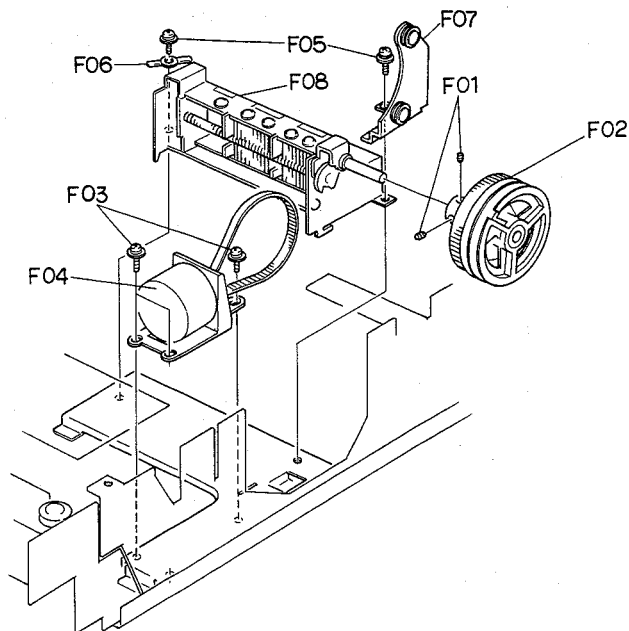

Fig. 3.15
Refer to Fig. 3.15. Remove Front Panel Ass'y referring to items 3.1 – 3.3.